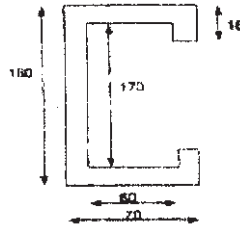

Fig. 3
- b) Determine the sectional properties (Area, Moment of Inertia) of light gauge steel shown in fig. 3 by linear method. Also find percentage error. (Dimensions in mm) [13]